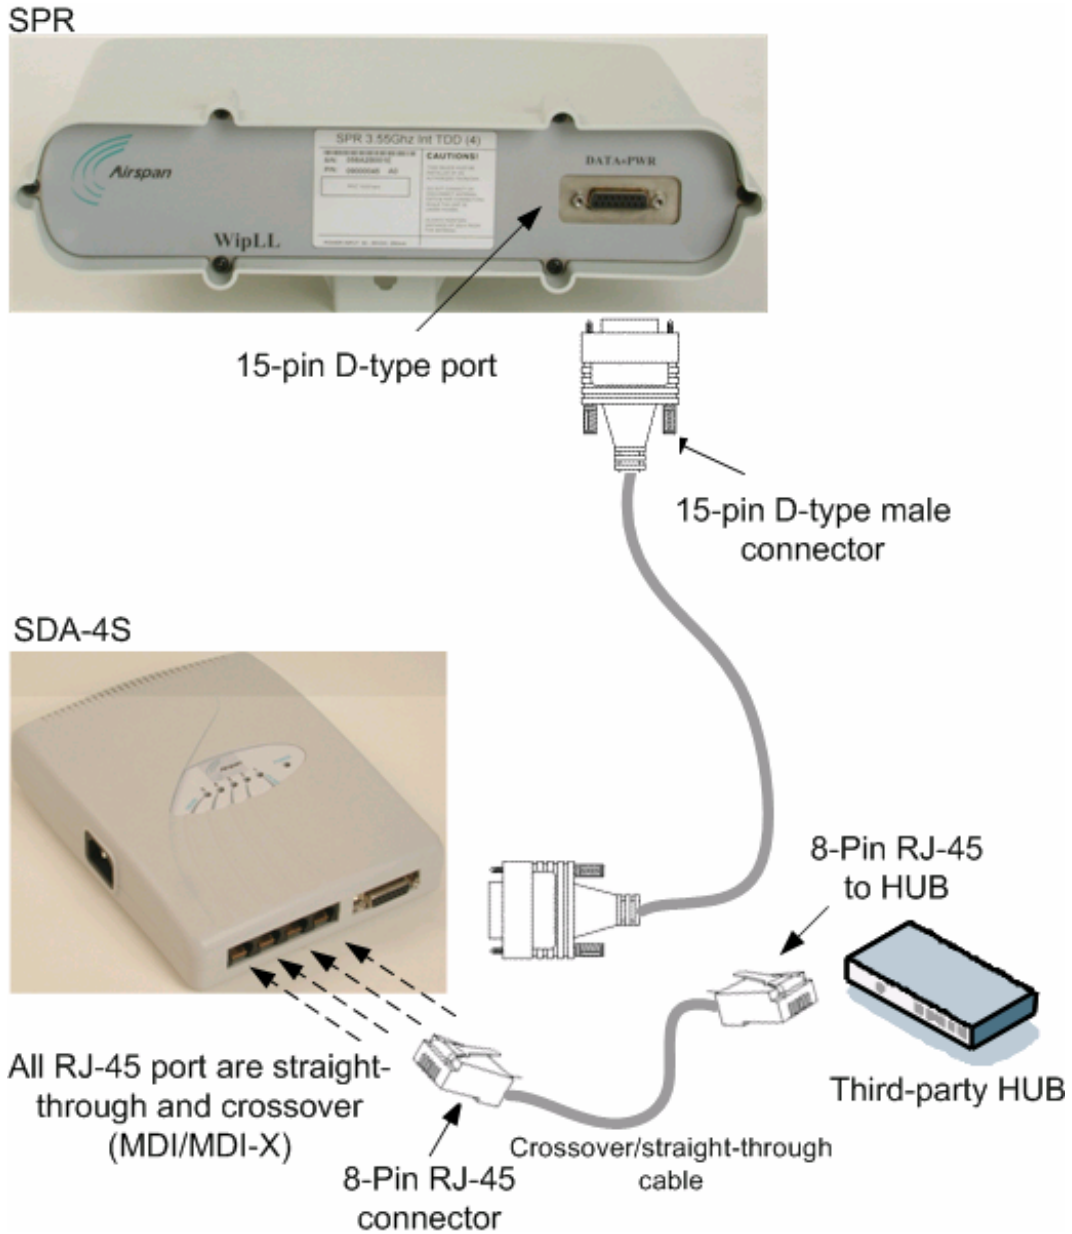
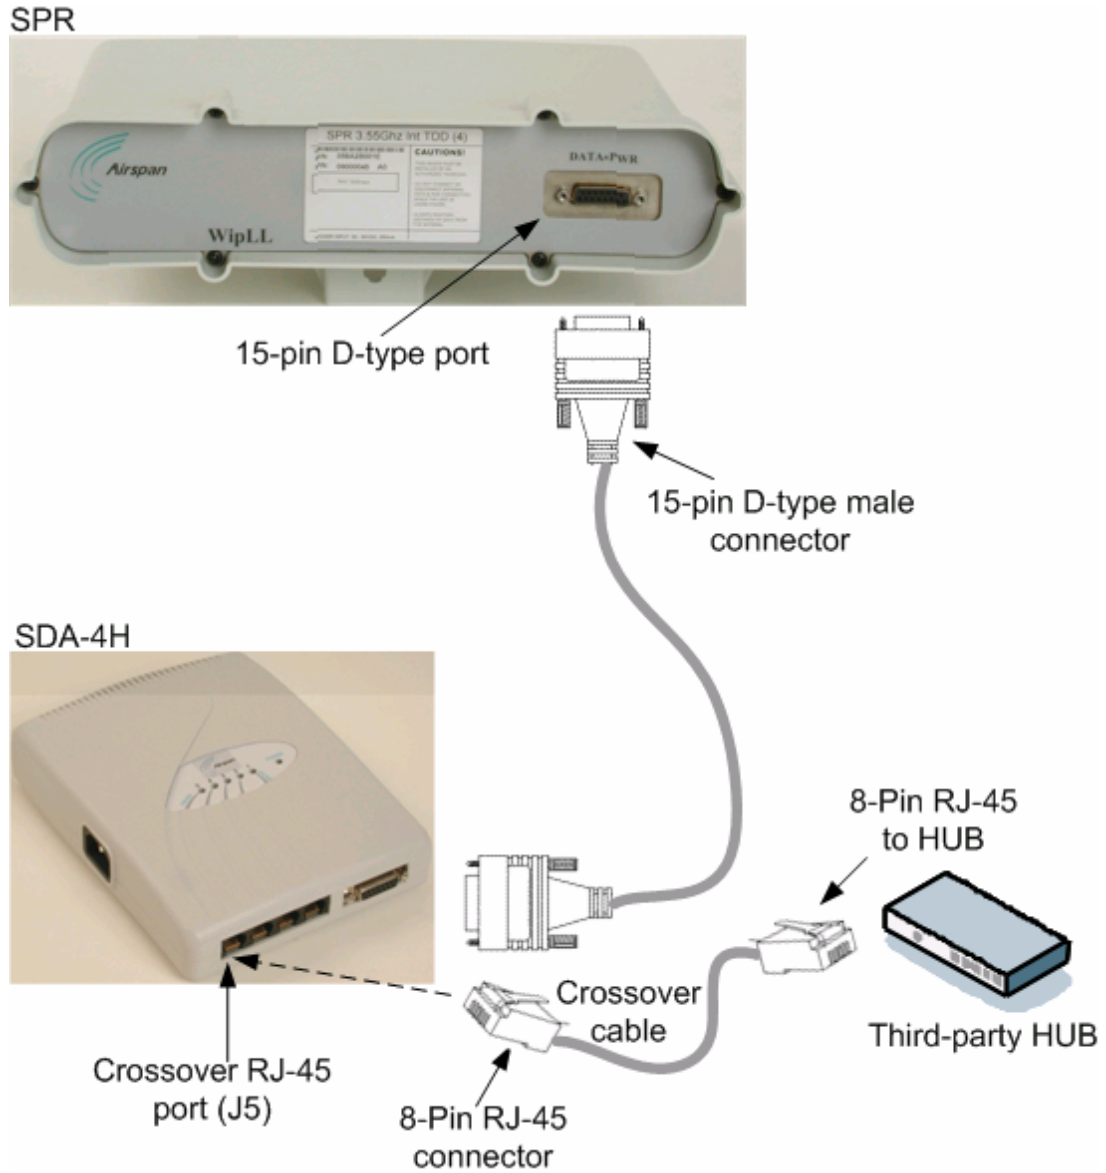

Figure 14-5: SDA-4S crossover/straight-through cable connections to hub
Figure 14-6: SDA-4H crossover cable connections to hub
1. Connect the **RJ-45 male**, at one end of the cable, to any one of the SDA-4S's RJ-45 ports (see Figure 14-5), or to the SDA-4H's left-most **RJ-45 port - J5** (see Figure 14-6).